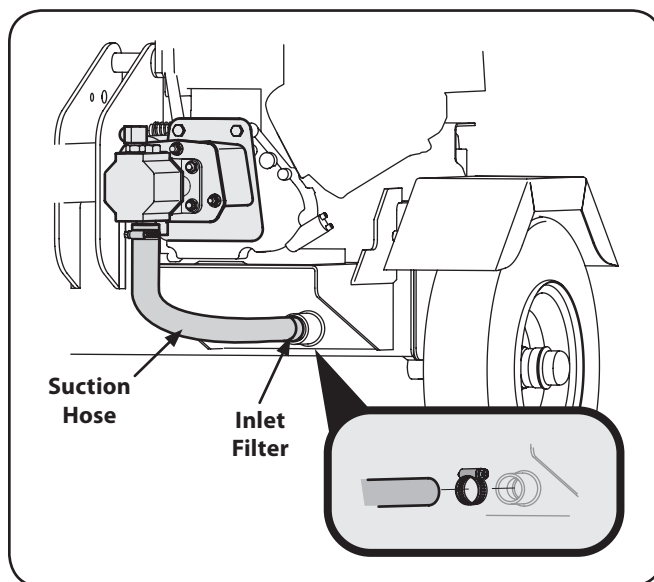

Figure 6-1
3. Carefully unthread the inlet filter and clean it with penetrating oil. See Figure 6-1.